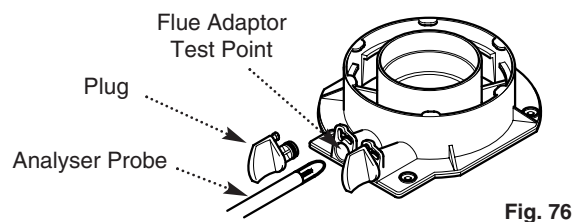

Fig. 76
8. Remove the plug from the flue adaptor test point. Insert the analyser probe and allow time for the reading to settle (Fig. 76).